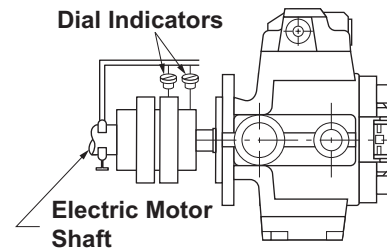

Figure 3
**CRITICAL SHAFT ALIGNMENT** - PROPER SHAFT ALIGNMENT IS NECESSARY TO MINIMIZE EQUIPMENT NOISE, VIBRATION AND SHAFT SEAL WEAR. Align to less than .006 inches (0.152 mm), as shown in Figures 3 and 4.